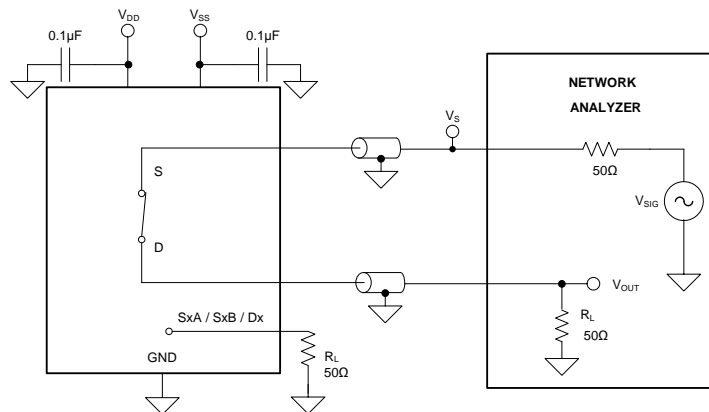

Figure 25. Bandwidth Measurement Setup
Bandwidth is defined as the range of frequencies that are attenuated by less than 3 dB when the input is applied to the source pin (Sx) of an on-channel, and the output is measured at the drain pin (D) of the device. Figure 25 shows the setup used to measure bandwidth.